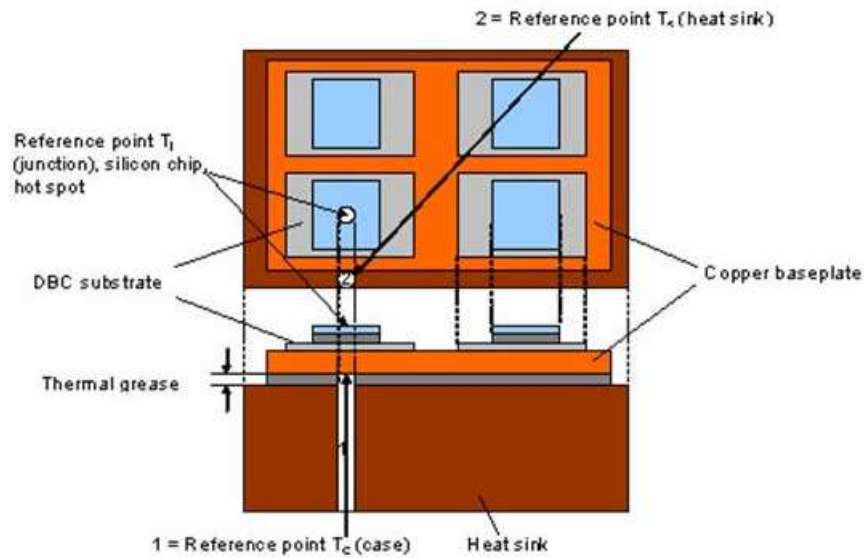

Fig.1 Method A as used for SEMIPACK, location of reference points for R_{th} measurement
SEMIKRON measures the $R_{th(j-c)}$ and $R_{th(c-s)}$ using method A shown in *Fig.1*. This means the reference points are as follows:
- ♦ For $R_{th(j-c)}$ they are a virtual junction of the chip (T_j) and the bottom side of the module (T_c), measured directly underneath the chip via a drill hole in the heat sink. Reference point 1 in *Fig.1*.